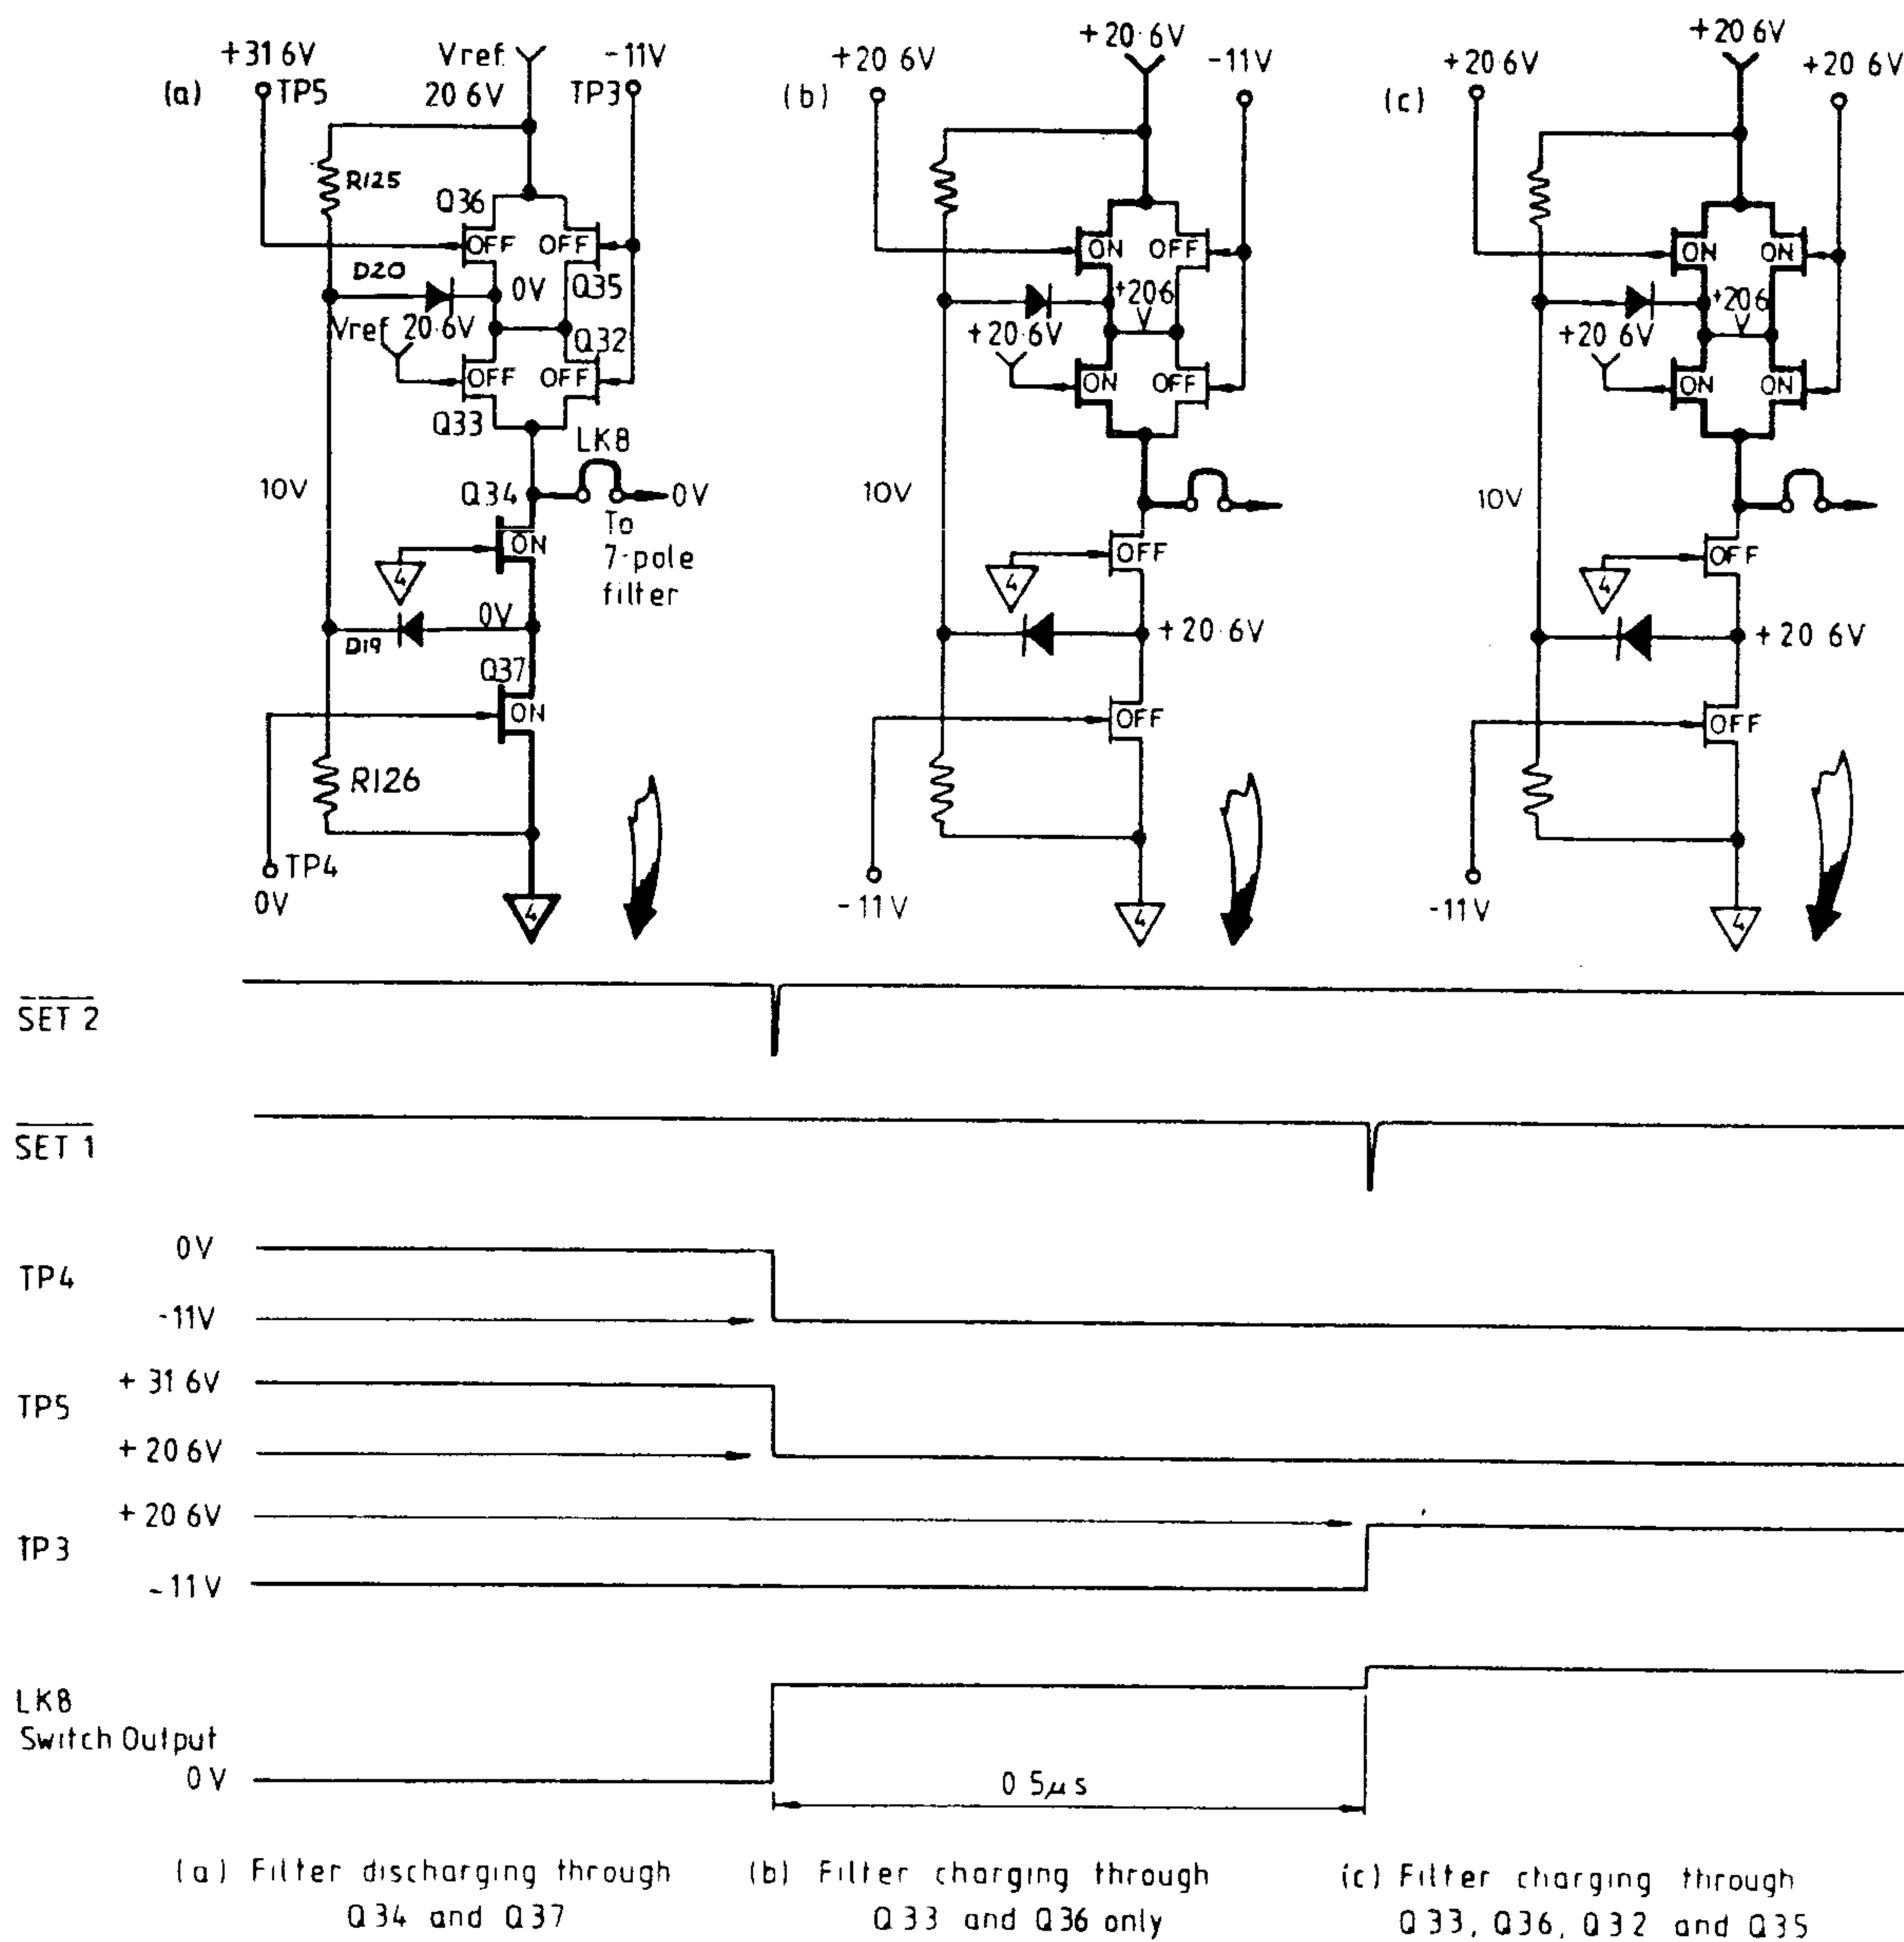

FIG. 6.27 ACTION OF MAIN AND GUARD SWITCHES (MSD)
6.5.8 MAIN and GUARD SWITCHES (Fig. 6.27)
Refer to Fig. 6.27, in which only the Space to Mark (SET) state transfer a-b-c is shown.
(Fig. 6.27)
In *Fig. 6.27(a)* the switches are in "space" state:
Fig. 6.27(b) shows this intermediate state after $\overline{\text{SET 2}}$ and before $\overline{\text{SET 1}}$, and *Fig. 6.27(c)* illustrates the fully-conducting state after $\overline{\text{SET 1}}$. Note that for descriptive purposes, the second step on LKB waveform is heavily exaggerated, and is not readily viewed on an oscilloscope. The slightly longer charging time-constant during this half micro-second, due to the higher resistance of Q36/Q33, is not sufficient to disturb the linearity of the filter in excess of specification.